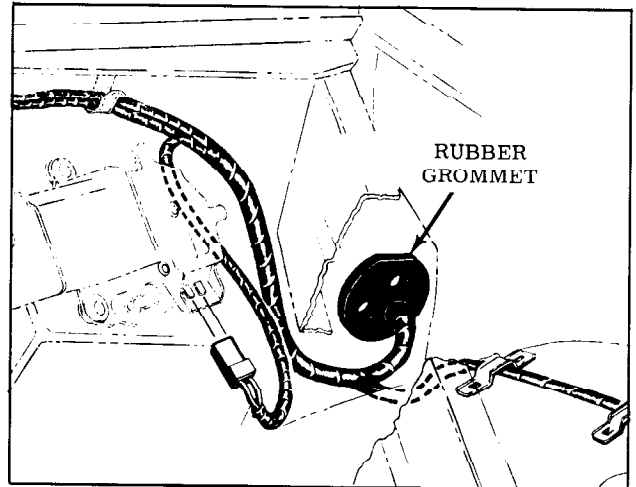

Fig. 13-4 Wiring Harness Routing
3. Route under-hood branches through rubber grommet in cowl panel. (Fig. 13-4)